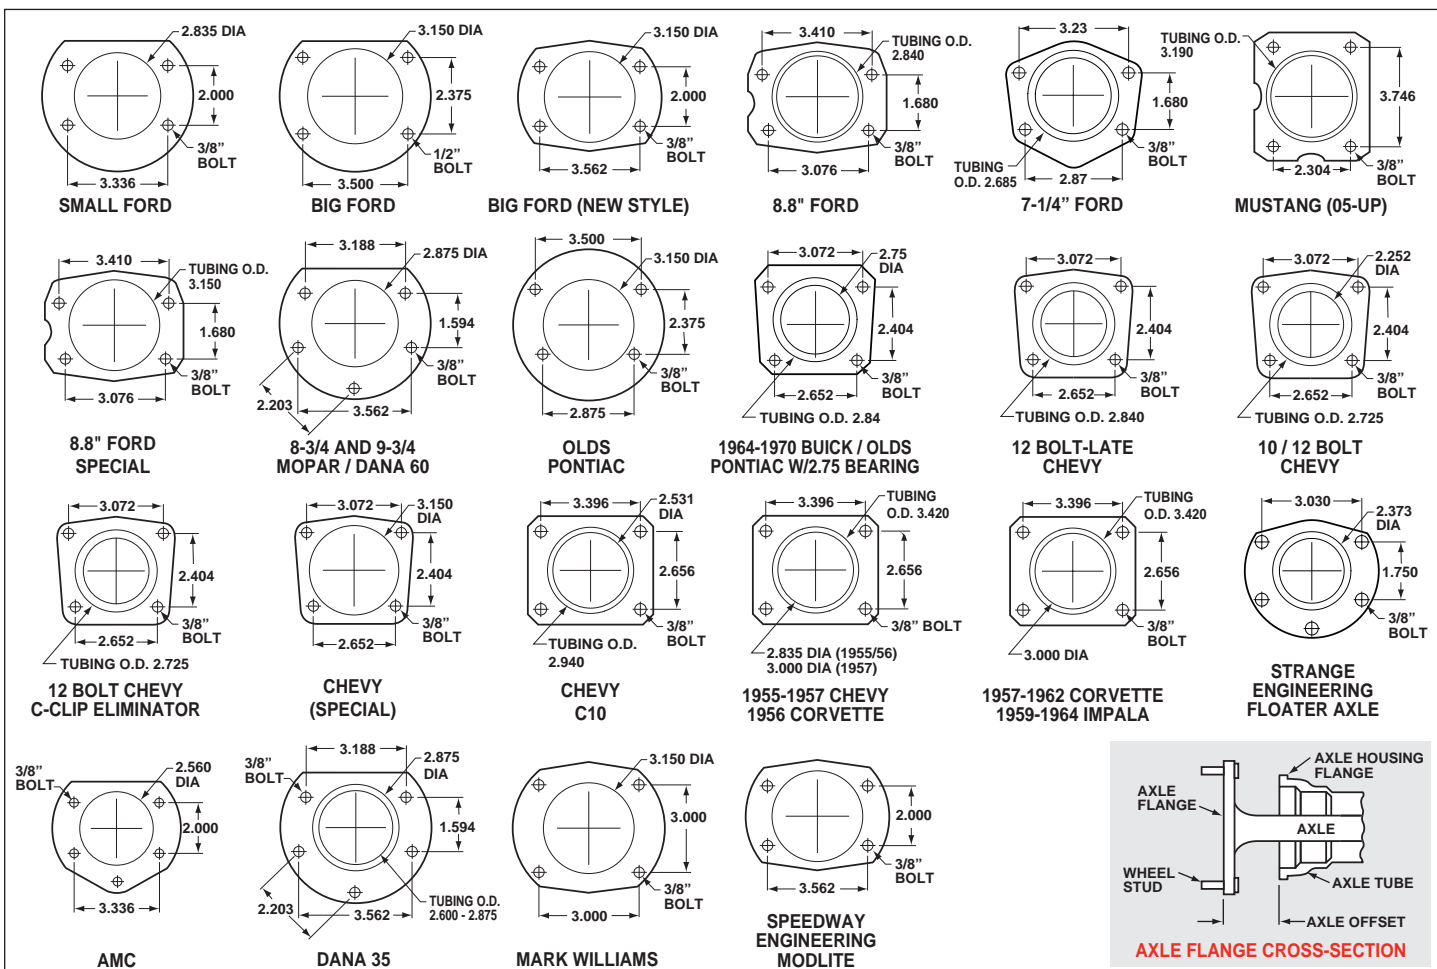

Figure 6. Rear Housing Flange Chart and Axle Flange / Offset Cross-Section
- Make sure this is the correct kit to fit the exact make and model year of your vehicle. This kit is designed for direct bolt-on installation to 1959-1964 Chevrolet Impala / 1957-1962 Chevrolet Corvette axle housing flange. Reference Figure 6.
- Dimension from wheel side of axle flange to wheel side of axle housing flange (see Figure 6, lower right hand corner). This dimension is critical to ensure proper alignment of the rotor to the caliper, and should match offset given in the kit description.